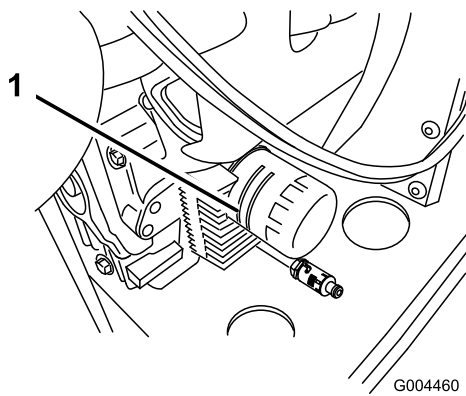

Figure 37
2. Remove the old filter and wipe the filter adapter gasket surface (Figure 37).